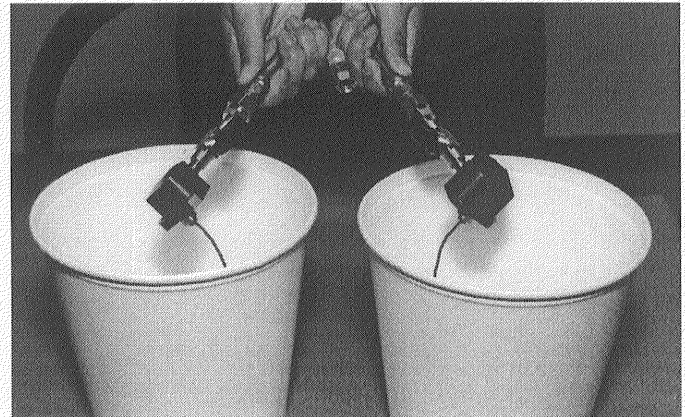
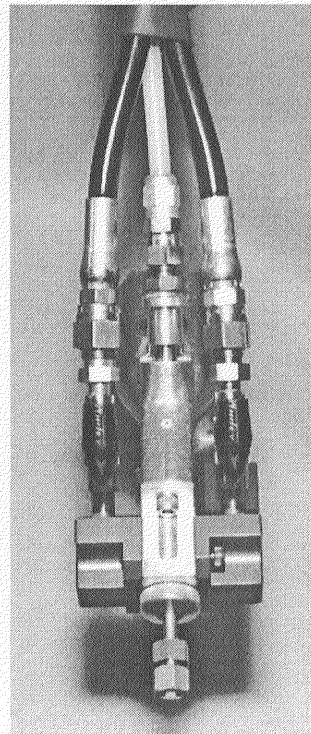

Fig. 1
Fig. 2
- 3. Place separate clean containers under each individual Side Block. Open manual Material Valves (black arrow forward, see Fig. 2 & 3) on each Side Block to allow trapped air to escape the Hose and material to flow into the containers until all air is purged from the material system. (see Fig. 1)
14. Turn Purge Air and Material Valves ON at Gun. (see Fig. 2 & 3)